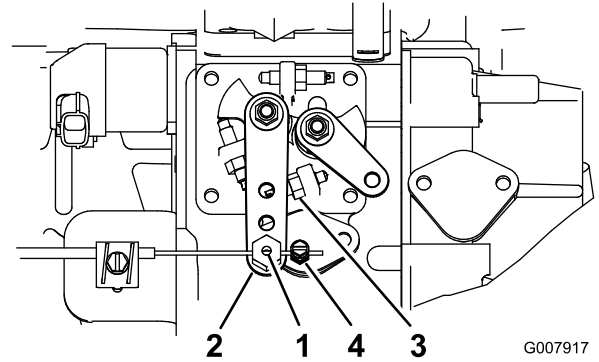

Figure 52
2. Loosen the throttle cable connector, on the throttle cable, next to the injection-pump lever (Figure 52).
3. Hold the injection-pump-lever arm against the high-idle stop (Figure 52).